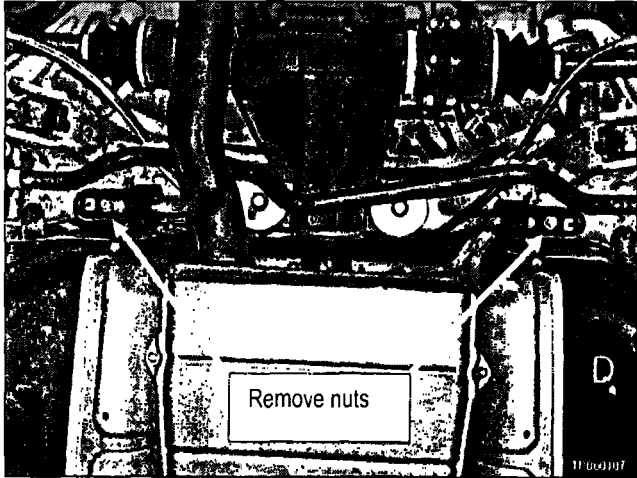

Figure 16
- 20. Remove the nuts that hold the center muffler mount brackets to the vehicle body (see Figure 16).